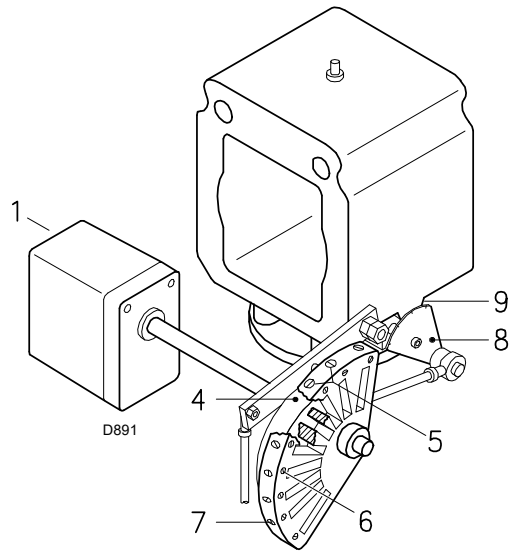
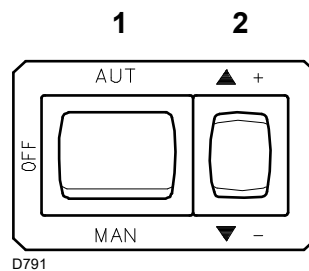
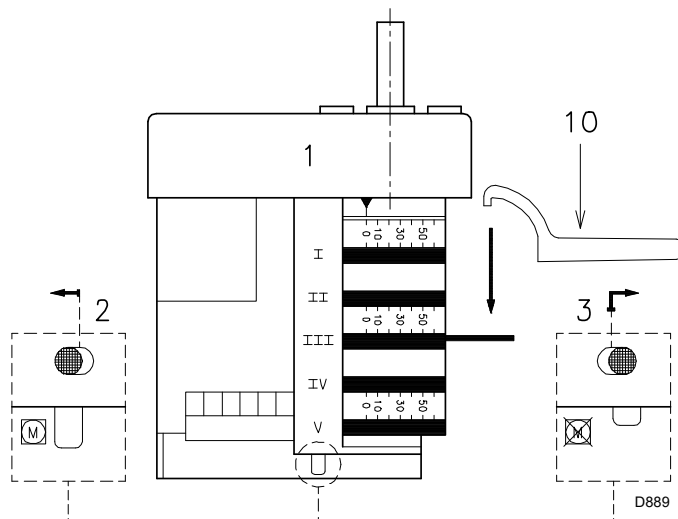

Fig. 28
Fig. 29
Fig. 30
Now press the “increase output” button 2)(Fig. 29 on page 29), and keep it pressed until the servomotor has opened the air damper and the gas butterfly valve.
Progressively adjust the end profile of cam 4)(Fig. 28) by turning the screws 7).
MIN output must be selected within the firing rate range shown on page 10. Press and hold the “output reduction” button 2)(Fig. 29 on page 29) until the servomotor closes the air damper and the gas butterfly valve is at 20° (factory setting).
- If it is necessary to reduce it, slightly decrease the angle of cam III) (Fig. 30 on page 29) with small, regular movements, i.e. bring it from an angle of 20° to 18° - 16°...
- If it is necessary to increase it, lightly press the “output increase” button 2)(Fig. 29 on page 29) (open the gas butterfly valve by 10-15°), and increase cam III angle (Fig. 30 on page 29) with a series of small movements, i.e. move from angle 20° to 22° - 24°...
Progressively adjust the initial profile of cam 4) by turning the screws 5)(Fig. 28). If possible, do not turn the first screw, since this is used to set the air damper to its fully closed position.
Lightly press the “increase output” button 2)(Fig. 29) so the servomotor rotates by about 15°. Adjust the screws until optimal combustion is obtained. Proceed in the same way with the other screws. Take care that the cam profile variation is progressive.
Switch the burner off with switch 1)(Fig. 29), OFF position.
Release cam 4)(Fig. 28) from the servomotor by pressing and shifting button 3)(Fig. 30) to the right, and check several times that by rotating cam 4)(Fig. 28) forwards and backwards by hand, the movement is soft and smooth, without jamming.
Engage cam 4)(Fig. 28) to the servomotor again by shifting button 2)(Fig. 30) to the left.